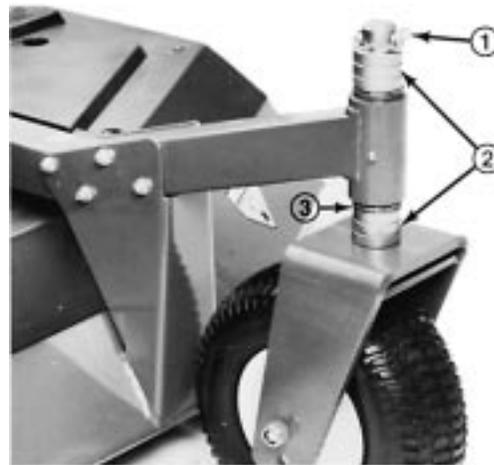

Figure 10
4. On all remaining castor wheel assemblies, remove lynch pin from castor fork shafts (Fig. 10). Remove castor fork shaft and spacer assembly from the castor arm (Fig. 10). Place spacers onto castor spindle to desired height-of-cut setting and install castor fork shaft in arm (Fig. 9). Install remaining spacers onto shaft and secure assemblies with the lynch pin (Fig.10).